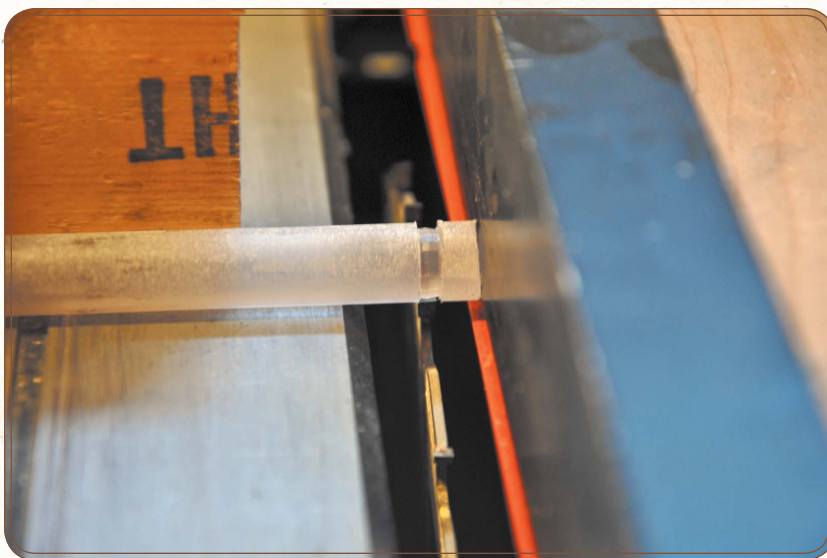

Figure 1.2: Cutting a groove
- b. Carefully spin the rod as it contacts the blade to make an even slot (see Figure 1.2).